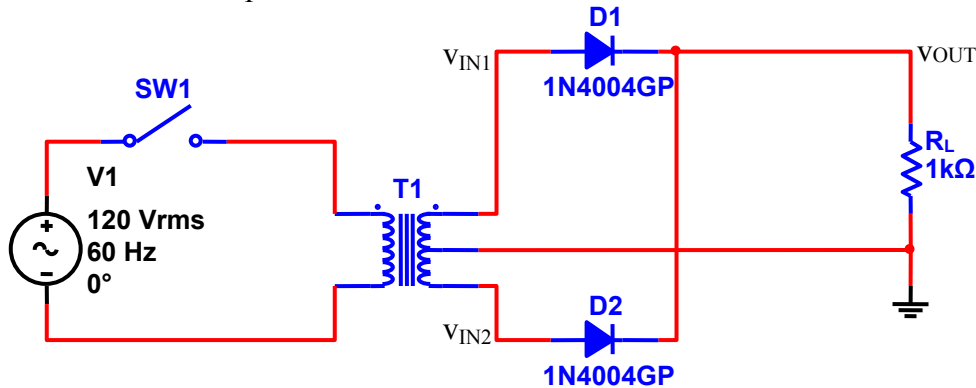

Figure 2-4.
- Figure 2-4: Full-Wave Rectifier Circuit (no filter cap)
- 2.1. Build the full-wave rectifier circuit shown in Fig. 2-4 by adding an additional diode, D2. Note that the filter capacitor has been removed.